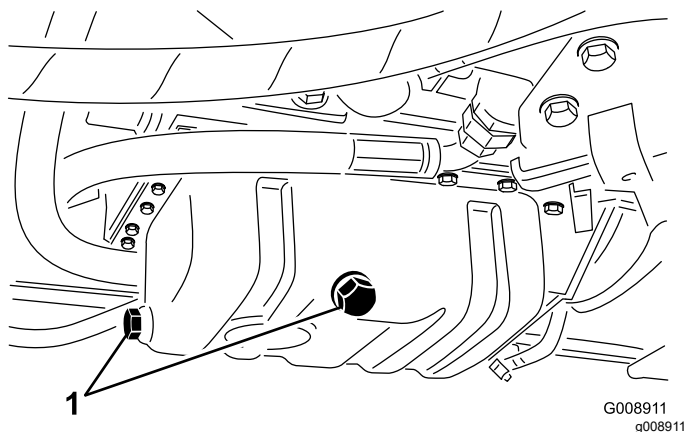

Figure 70
3. Remove either drain plug (Figure 70) and let the oil flow into a drain pan; when the oil stops flowing, install the drain plug.